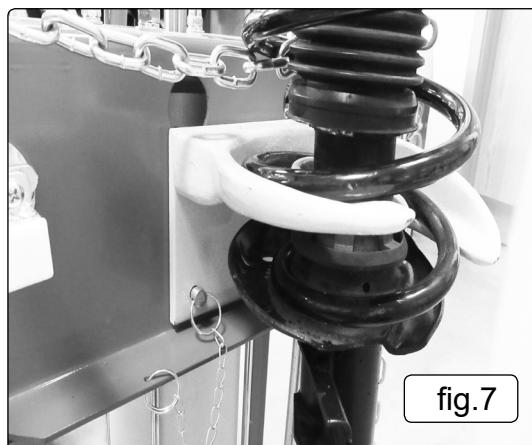

fig.7
- 6.1.2. Position the lowest coil of the spring in the lower yoke and rotate the strut and spring so that the coil is held as low as possible (fig.7).